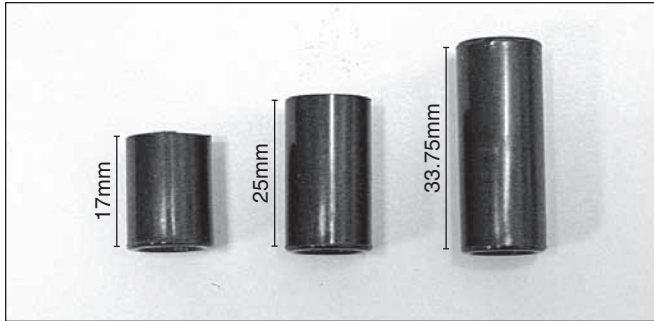
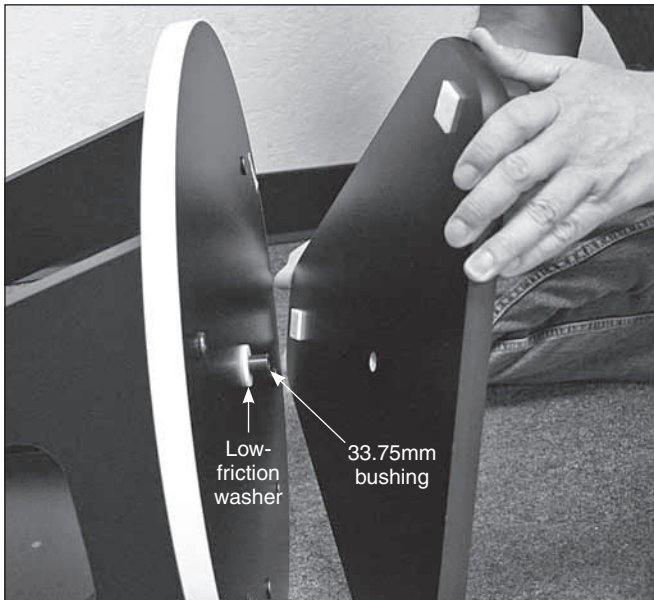

Figure 4. Three plastic bushings used in the assembly of the XT PLUS.
Figure 5. Assembly of the groundplates.
1. Screw the plastic feet (A) into the underside of the bottom (triangular) groundplate (B) using the self-tapping wood screws provided, with a Phillips screwdriver. Insert the screws through the feet and thread them into the predrilled starter holes until tight.
2. Loosely attach the front brace (C) to the two side panels (D) with six of the black base assembly screws (E) in the predrilled holes. Use the 4mm hex key to tighten the screws. The side panels should be oriented so the "SkyQuest XT PLUS" label is facing outward. Do not completely tighten the screws yet.
3. Line up one of the altitude bearing cylinders (F) with one of the four bearing cylinder holes on the inside surface of each side panel. Push a bearing cylinder screw (G) through the side panel from the outside and thread the bearing cylinder onto it. You can tighten the cylinder by hand or, if needed, with the supplied 4mm hex key. Repeat for the remaining three bearing cylinders.
4. Attach the side and front panel assembly to the top groundplate (H) with the remaining six base assembly screws in the predrilled holes. Tighten all six screws.
6. Turn the base on its side. Insert the longest (33.75mm) of the three black plastic bushings (I, see **Figure 4**) into the hole in the center of the top groundplate (D). Push the bushing in so it goes all the way into the groundplate, sticking out from the bottom surface (**Figure 5**).
7. Now place the white low-friction spacer washer (J) on the portion of the bushing sticking out from the bottom (**Figure 5**).
8. Install the bottom groundplate (B) by lining up its center hole with the nylon bushing. The white low-friction spacer washer should now be between the two groundplates (**Figure 5**).